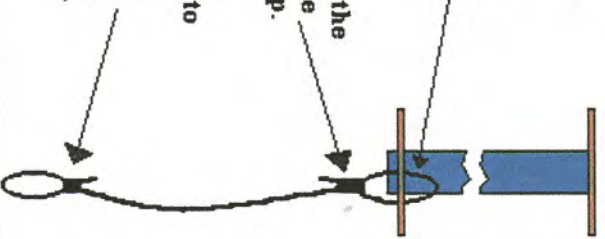

Figure 7
A. Test fit the pod struts into the pods. Mark and cut the main body tube for tab slots (See Figure 7). Then, glue the struts in place.